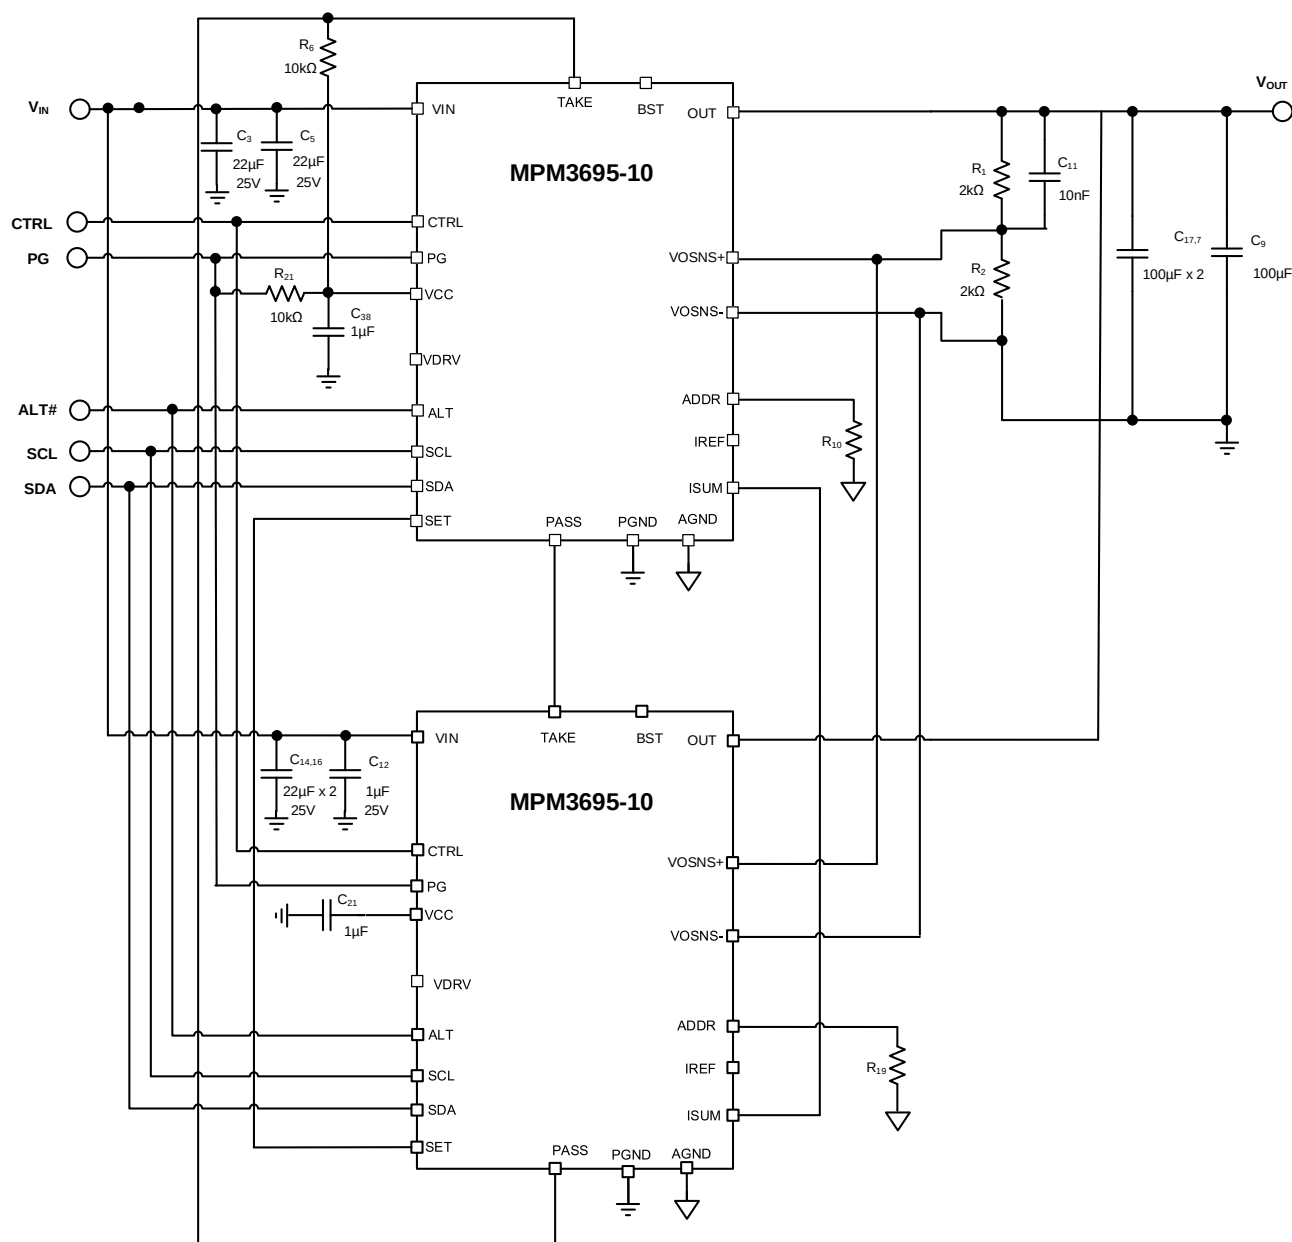

Figure 10: Typical Application Circuit – Dual-Phase, $V_{IN} = 4V$ to $16V$, $V_{OUT} = 1.2V$ at $20A$ Output
The start (S) and stop (P) commands are signaled by the master device, and signify the beginning and the end of the PMBus transfer. A start command is when the SDA signal transfers from high to low while SCL is high. A stop command is when the SDA signal transfers from low to high while SCL is high (see Figure 10).